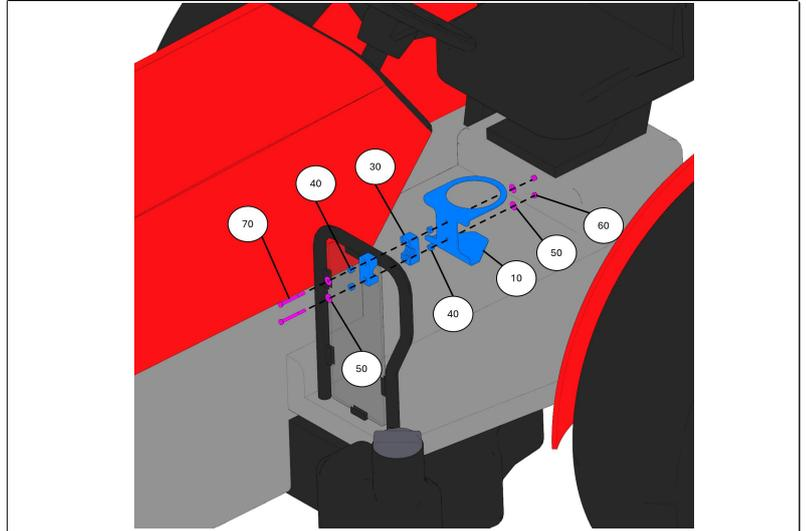

Fig. 1
1. Install cup holder bracket on horizontal tube as shown. See figure 1.